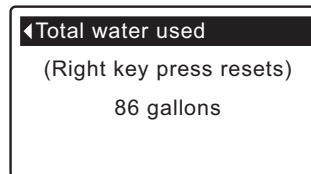

FIG. 69
6. The **Total water used** screen (See Figure 69) shows the volume of water used since it was last reset (it works like the trip odometer in a car). To reset the value to 0, press the RIGHT (▶) button while this screen is displayed.